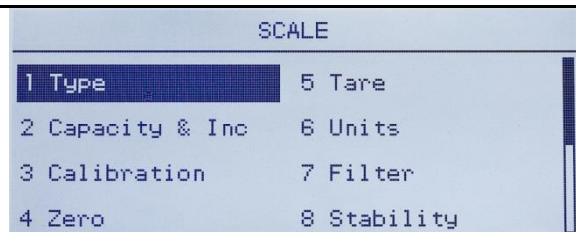

Figure 3-19: Scale Setup Menu, First page
7. With Scale in focus, press **ENTER**, or press the 1 key on the numeric keypad to use the shortcut method. Figure 3-19 shows the first selection of Scale sub-branches.